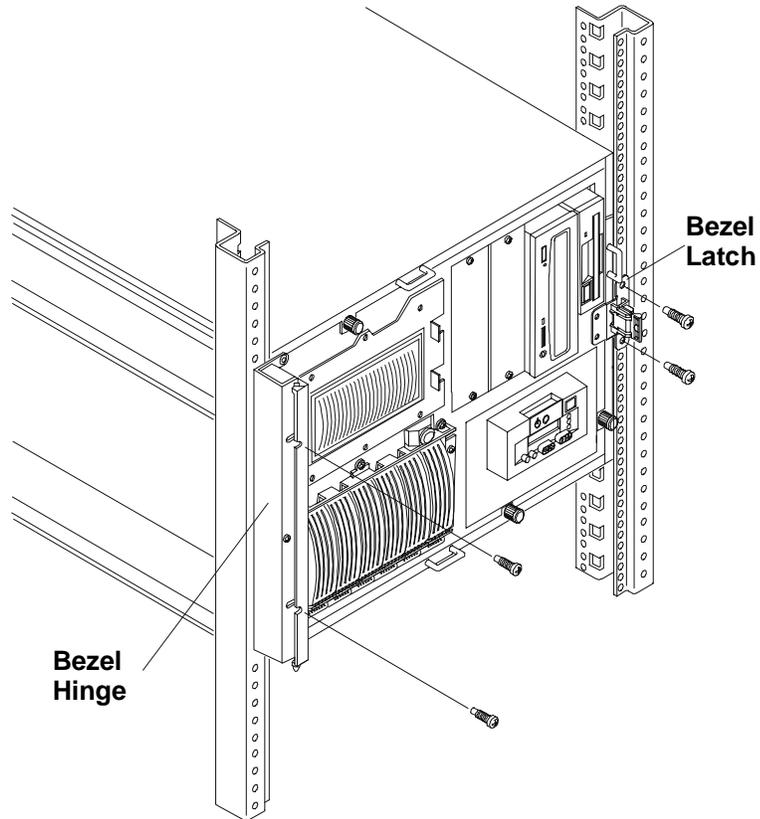

Figure 8-15. Securing the HP NetServer to the Rack
4. Install two screws through the bezel hinge into the rack nuts on the left column of the rack (see Figure 8-15).
5. Install two screws through the bezel latch into the rack nuts on the right column of the rack (see Figure 8-15).